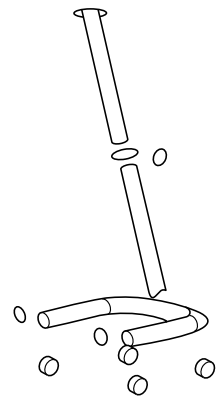

FIGURE 1
1. Assemble U-frame according to Figure 1.